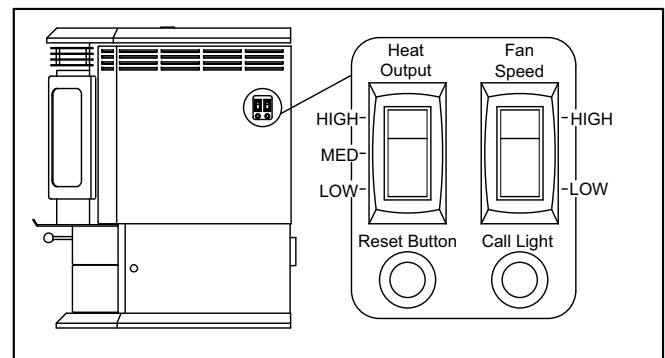

Figure 22.1
3. Occasionally the appliance may run out of fuel and shut itself down. When this happens, the red call light will be on. To restart it, fill the hopper and press the reset button. **(See Figure 22.1, page 22)**. When you press the reset button the red call light will go out. Release the button and the light will come back on. You should see a fire shortly. If not, follow the instructions on **page 23**, of "Starting Your First Fire".